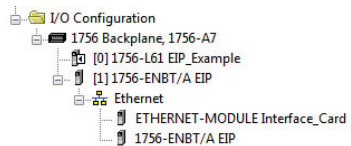

Figure 54: I/O Configuration Tree
- 6) After adding the I/O Module to the configuration, the full I/O Configuration tree should appear similar to Figure 54.